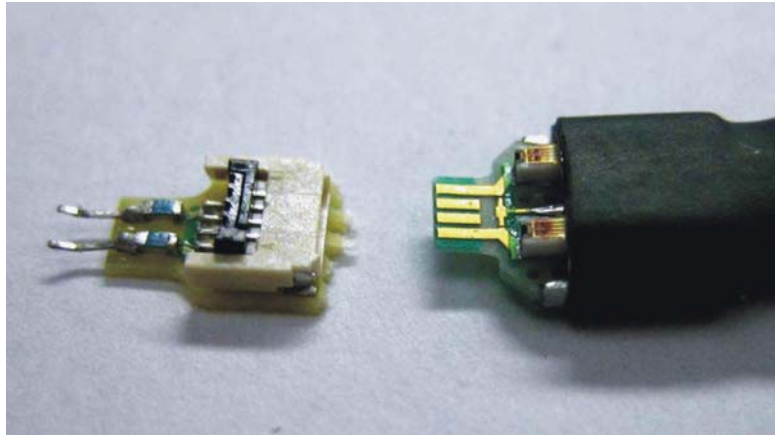
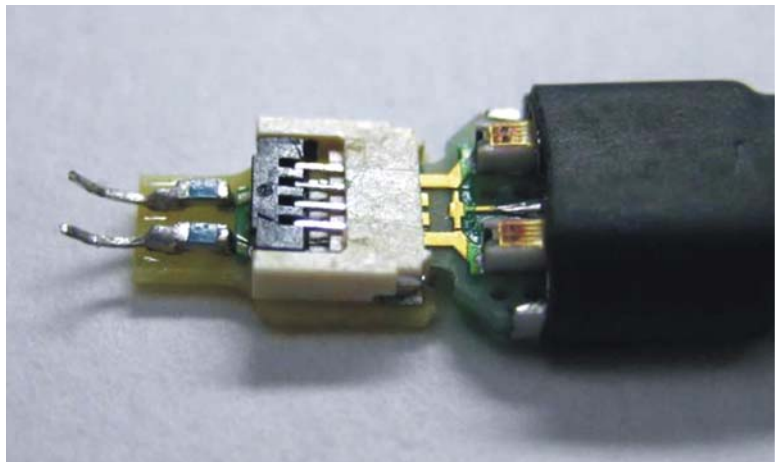
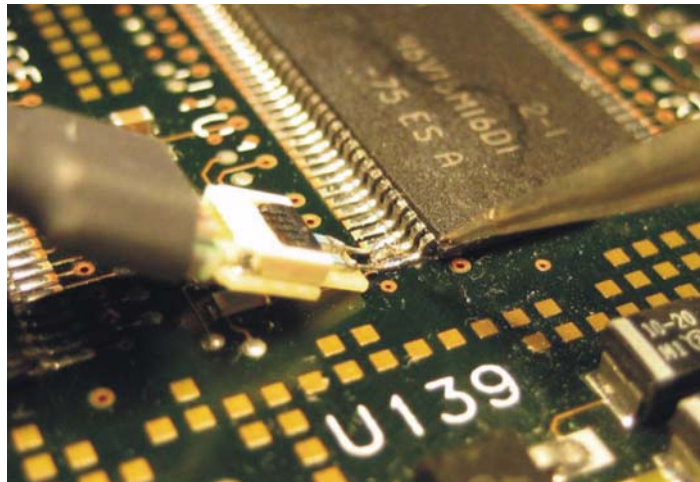

Figure 3-14 ZIF tip (open position) and ZIF probe head
Figure 3-15 ZIF tip (closed position) with ZIF probe head inserted
Figure 3-20 ZIF tip positioned and soldered in place
A close-up of the ZIF tip and the ZIF probe head before the probe head is inserted into the ZIF tip is shown in Figure 3-14. Note that lever on the ZIF tip is shown in the open position (pointed up) which allows the insertion of the probe head contacts into the ZIF tip with zero insertion force.
A close-up of the ZIF probe head inserted into the ZIF tip is shown in Figure 3-15. Note that now the lever on the tip is in the closed position (down, rotated 90 degree to the left) which closes the contacts of the ZIF connector.
- 4 Installation of ZIF tip. Connect the ZIF tip to the ZIF probe head as shown in Figure 3-14 and Figure 3-15. This allows the probe to be used as a handle for the ZIF tip to allow positioning in the DUT. Position the lead wires on the target points and then briefly heat the solder joints. There should be enough solder to form a good fillet and enough flux to make the joint shiny. There should not be so much solder that the big solder ball is formed that could cause a solder bridge or overheat the leads on the ZIF tip. This is shown in Figure 3-20.